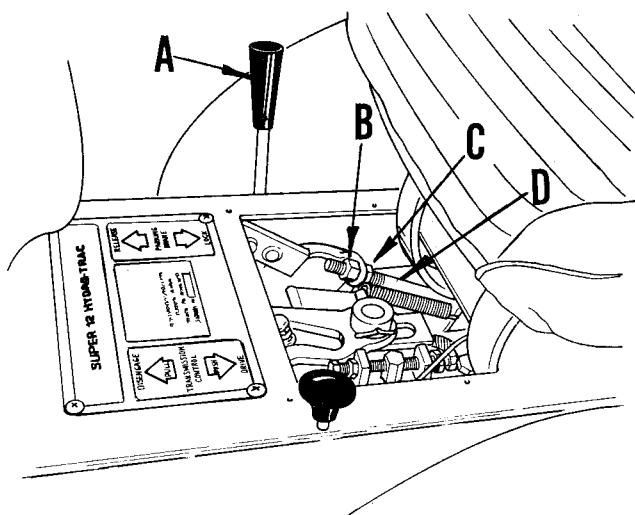

FIG. 21
Place park brake lever (A), in lock position as shown in Fig. 21 above. Loosen nut (C), and tighten nut (B). Lock in place with nut (C). Start and run tractor slowly, apply parking brake to be sure brake will hold. As brake band wears, this brake rod (D), will need to be readjusted.